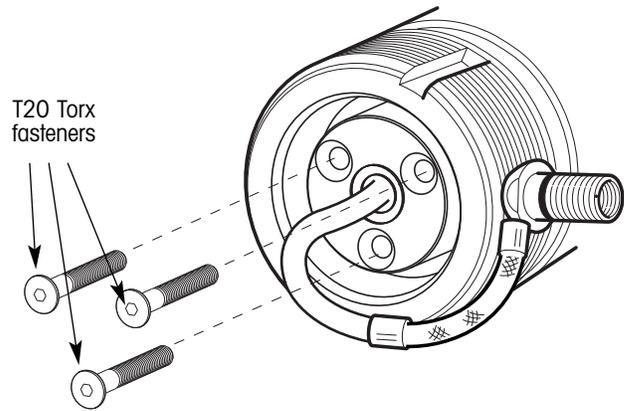

figure 40. Rotary joint removal from spindle
2. Remove the three fasteners holding the rotary joint assembly to the spindle plug (figure 40).